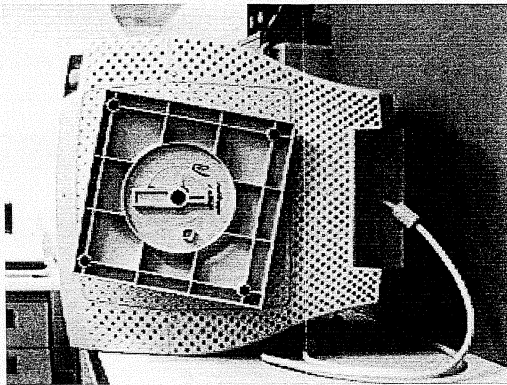

Fig. 3.3
- Step 2: Turn the set to remove the 2 screws on the bottom side, as shown in Fig. 3.3 .